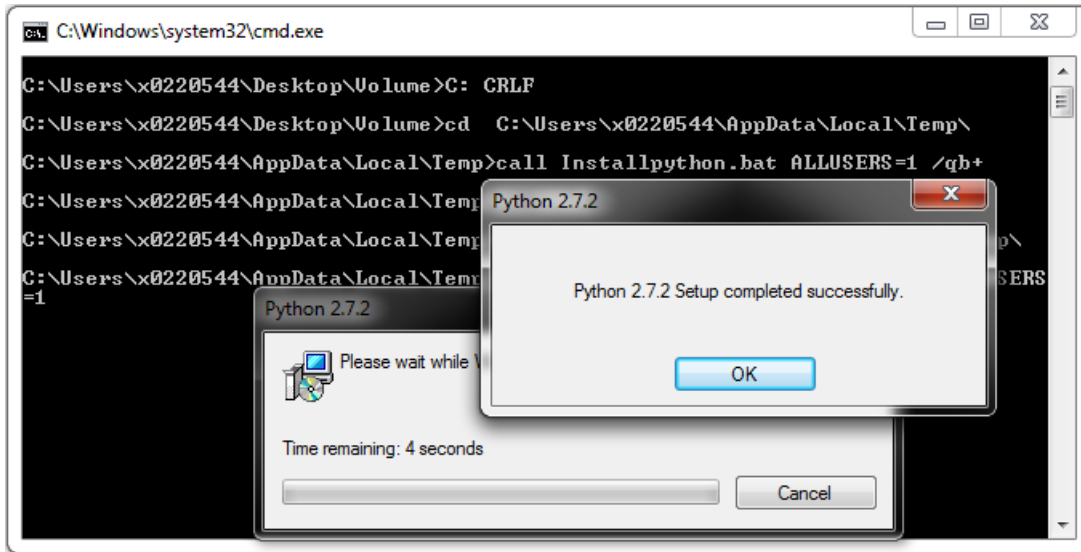

Figure 17. Python Installation Complete
- After the installation of the GUI, Python installation initiates. Once python is installed, a screen as shown in Figure 17 appears. Click the **OK** button to proceed with USB2ANY installation.